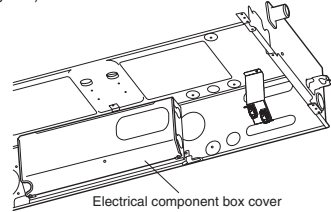

Fig. 7-9
- (1) Remove the cover from the electrical component box. (Fig. 7-9)